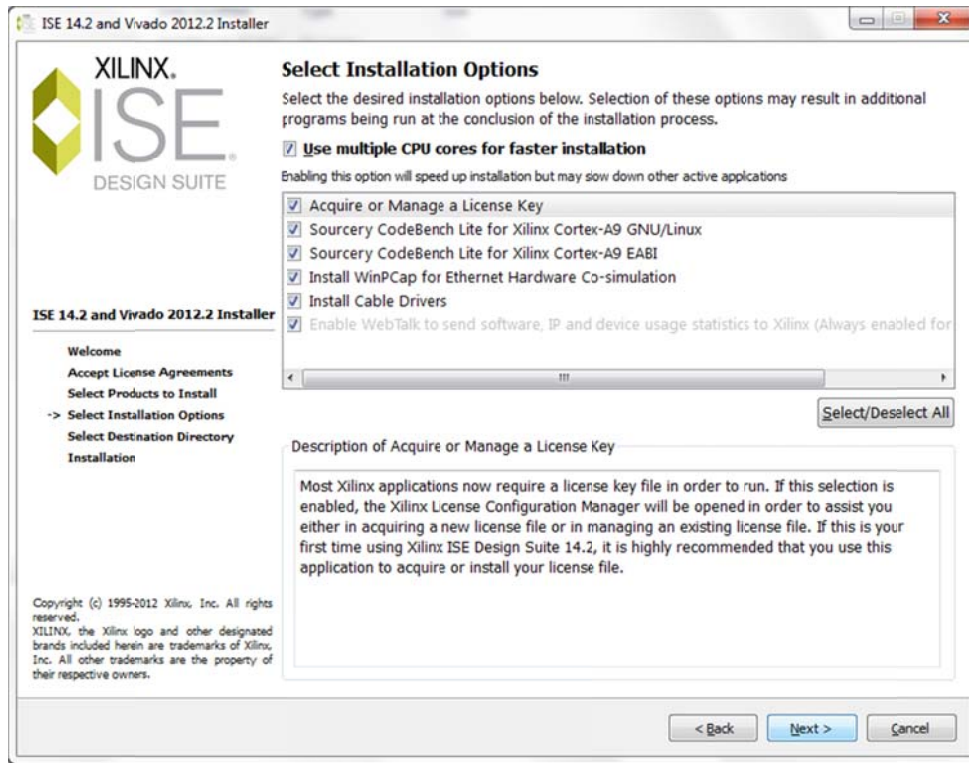
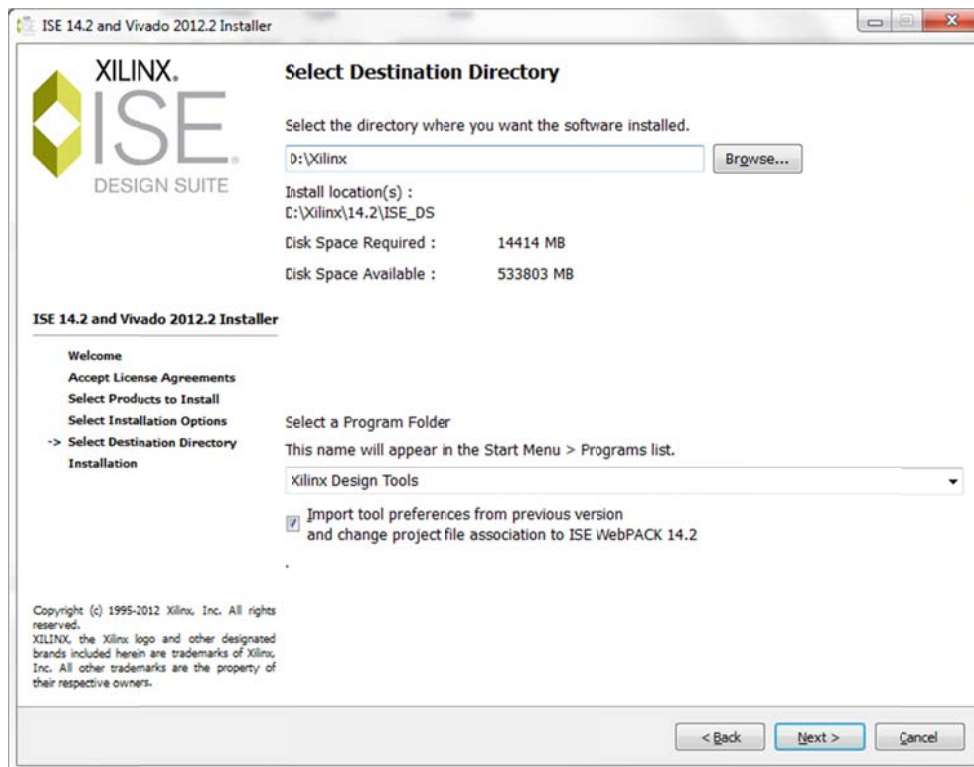

Figure 2A
Figure 3A
2. Select the tools to be installed as shown in Figure 2A and the destination location as in Figure 3A.